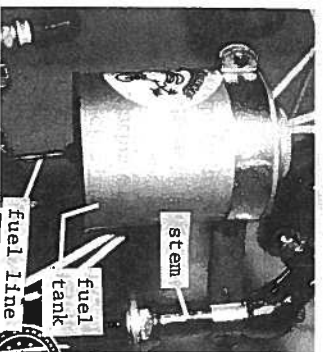

FIG. 9
- 7. Attach the fuel tank and bracket as an assembly to the handle bar stem (figure 9). It must be mounted to that portion that turns with the front fork.